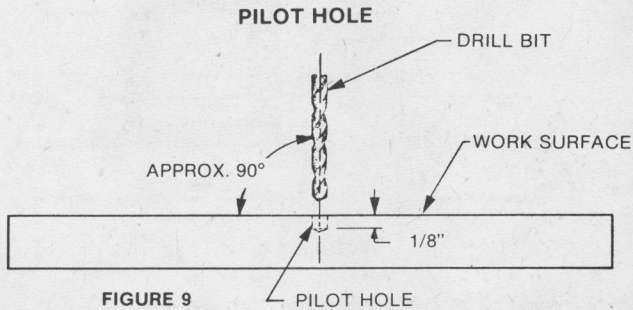

FIGURE 9
Guidemate provides a method of drilling angular holes from 90° to 45° in increments of 5°. For proper angular drilling a 90° pilot hole about 1/8" deep (see Fig. 9 & 10) has to be predrilled to prevent drill wander. Pilot hole size can be the same size drill as you are going to use to drill the angular holes.
- (a) A 90° pilot hole 1/8" deep, see Fig. 9 & 10, is required to prevent drill wander during drilling.